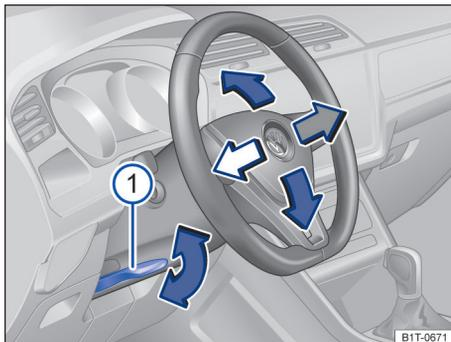

Fig. 64 Manual adjustment for the steering wheel position.
The steering wheel can be adjusted up and down (blue arrows) or forward and back (white and gray arrows) → fig. 64.
- Push down on the lever → fig. 64 ①.
- Always pull the lever → fig. 64 ① firmly upward after adjusting the steering wheel so that the steering wheel does not change position suddenly while the vehicle is moving.